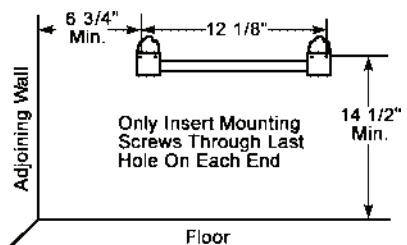

Figure 8 - Mounting Bracket Clearances
2. Mark screw locations on wall. (see Figure 8)